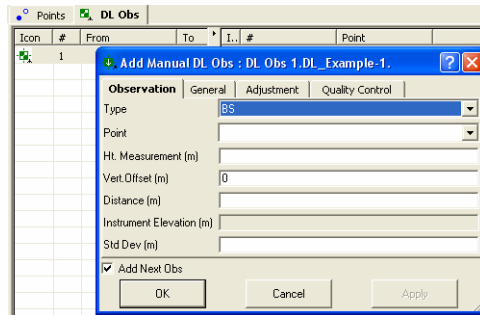

Figure 5-93. Add Manual DL Obs Dialog Box
- After clicking OK in the *Add Manual DL Run* dialog box, the *DL Obs* tab and the *Add Manual DL Obs* dialog box will display (Figure 5-93)